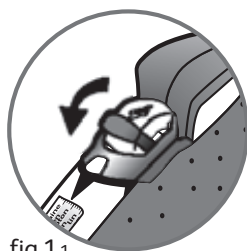

fig.1.1
- Set the steam control to DRY ☒ - fig. 1.1.